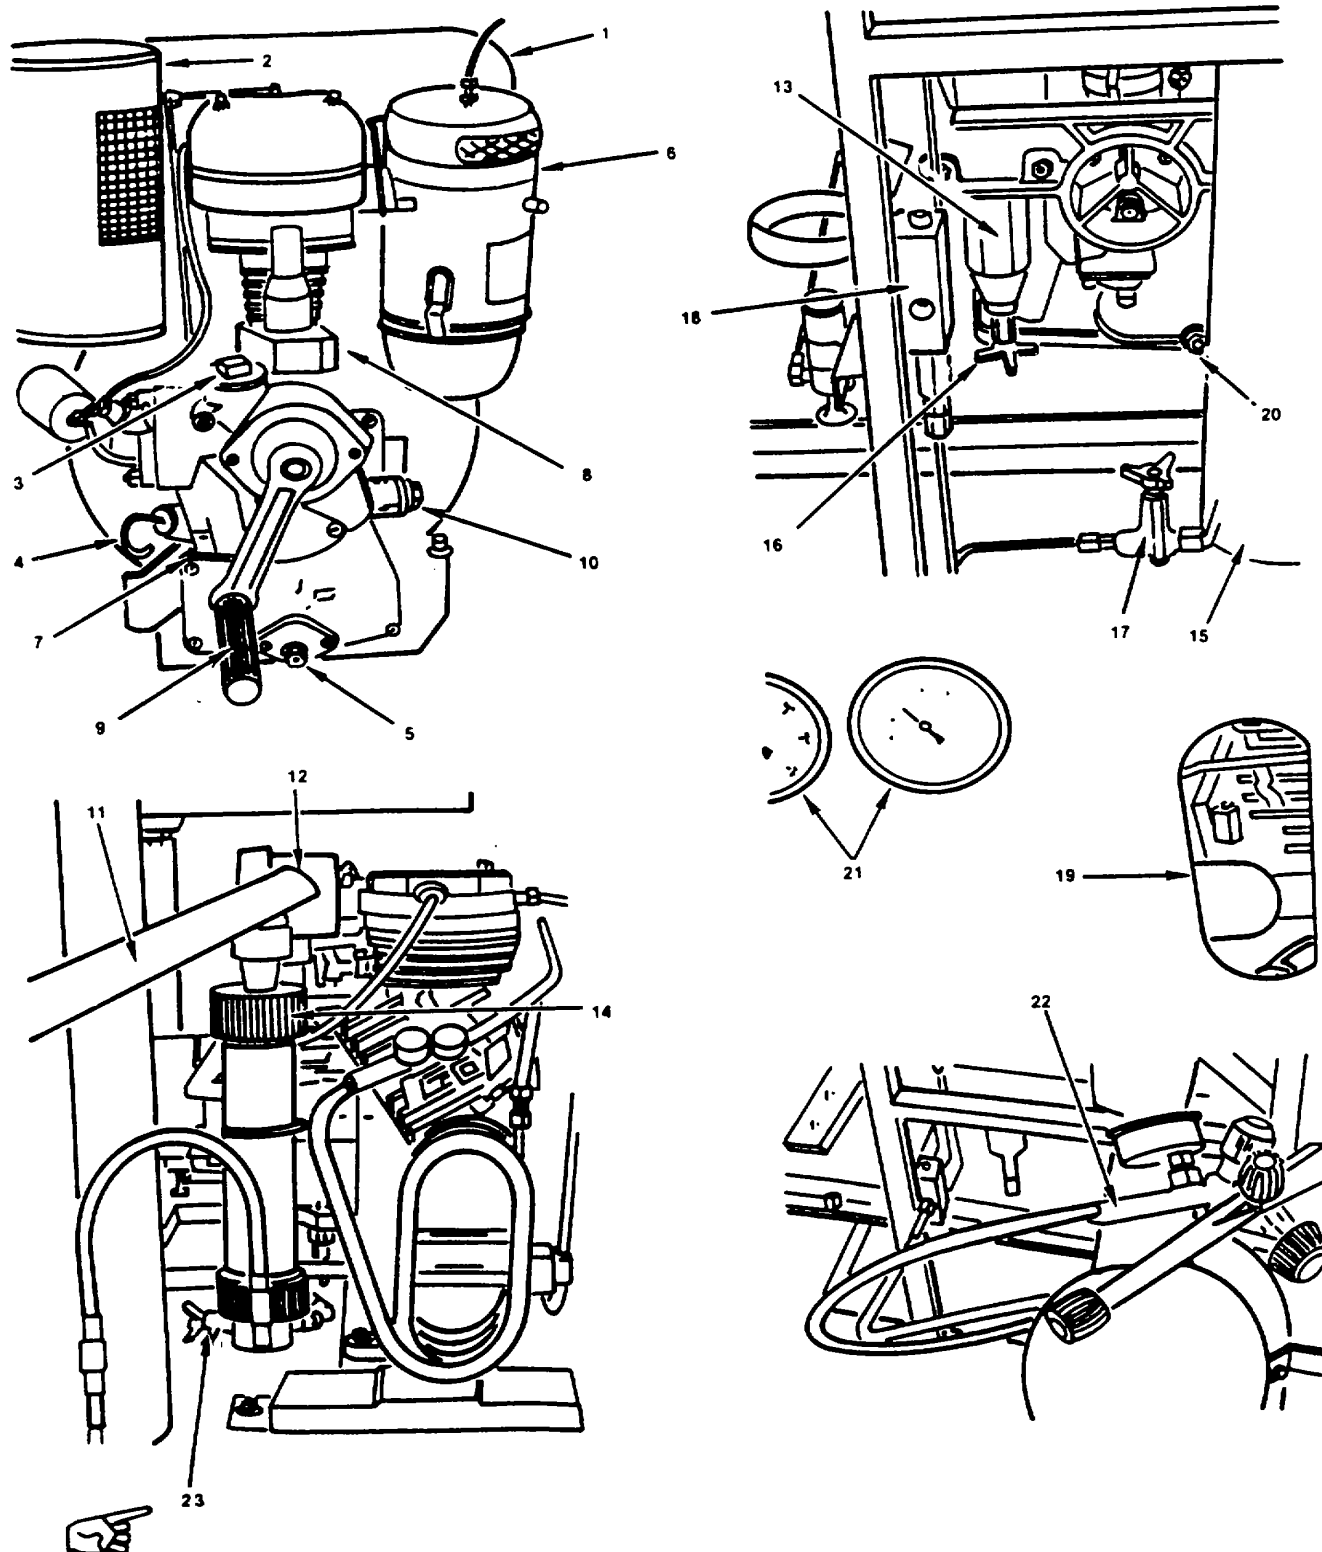

Figure 1-3. Air Compressor Unit.
1-7. AIR COMPRESSOR UNIT. The significant features, items and controls which affect the operation and maintenance of the air compressor unit are shown in Figure 1-3 (unless otherwise noted) and are described as follows. The technical principles of operation of the compressor are listed in Section III.
Legend for Figure 1-3
- f.** Check the oil level in the compressor crankcase with the combination oil fill plug and dipstick (19, Fig. 1-3). Wipe off the dipstick with a clean lint free cloth and reinsert the dipstick to determine the oil level. Dipstick must be screwed all the way down when checking oil. The crankcase oil level should be between the upper and lower marks on the dipstick. If the oil level is below the lower dipstick mark, add oil to raise the oil level to the upper dipstick mark. Oil must conform to the requirements shown in table 2-1.
g. Check the oil level in the engine crankcase with the engine oil dipstick (4, Fig. 1-3). Wipe off the dipstick with a clean lint free cloth and reinsert the dipstick to determine the oil level. The crankcase oil level should be up to the upper dipstick mark. If the oil level is low, add oil to bring the level up to the upper dipstick mark. Oil must conform to the requirements shown in Table 2-2. When checking engine oil level push dipstick in until cap bottoms on tube.
h. Fill the engine Fuel Tank (1, Fig. 1-3) with clean, fresh diesel fuel, *type #2*, or 2D. Do not mix oil with diesel fuel. Do not use gasoline, fuel additives or other starting fluids in fuel tank. Do not overfill or spill. If fuel is spilled, wipe up immediately.
i. Check that a clean filter element is installed in the compressor air intake filter (12, Fig. 1-3). Check that the prefilter and inlet hose (11, Fig. 1-3) is properly installed.
j. Check that all drain valves (16 & 17, Fig. 1-3) operate freely and that all safety valves are installed and are secure.